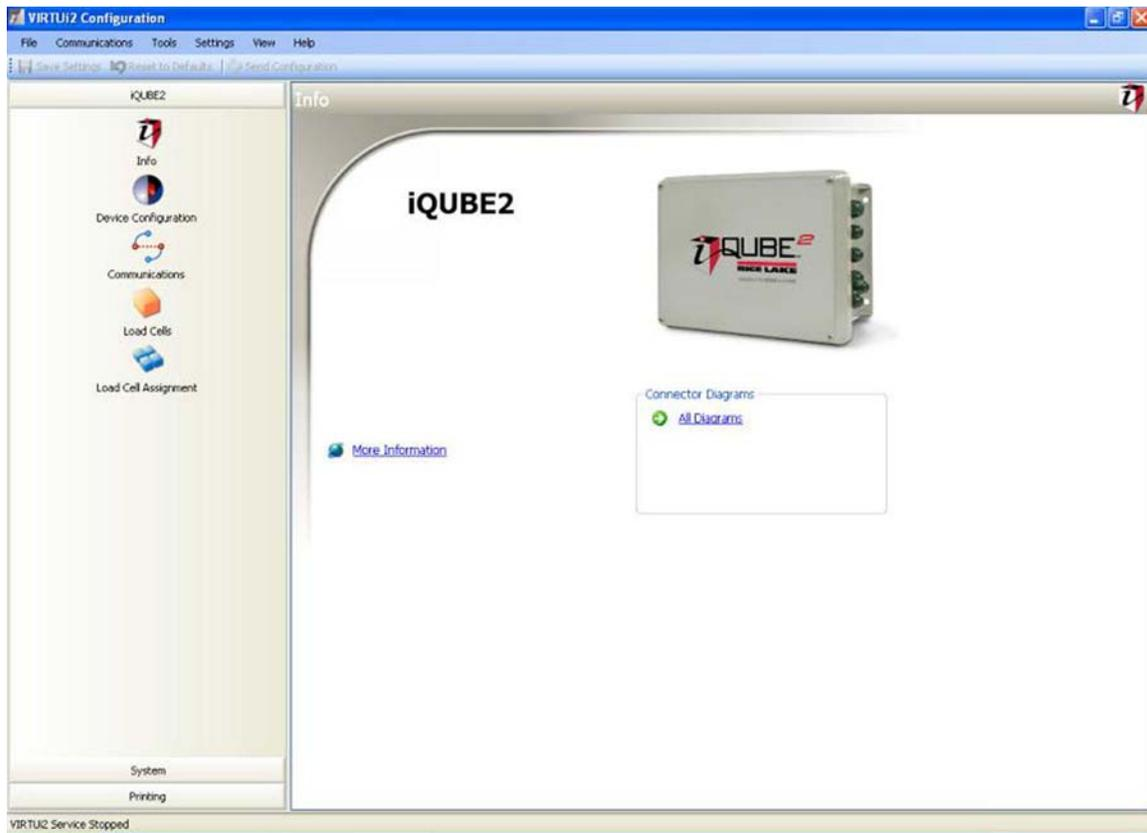

Figure 3-11. VIRTUi2 Home Screen
1. Open the VIRTUI2 Configuration Program. See Figure 3-11.